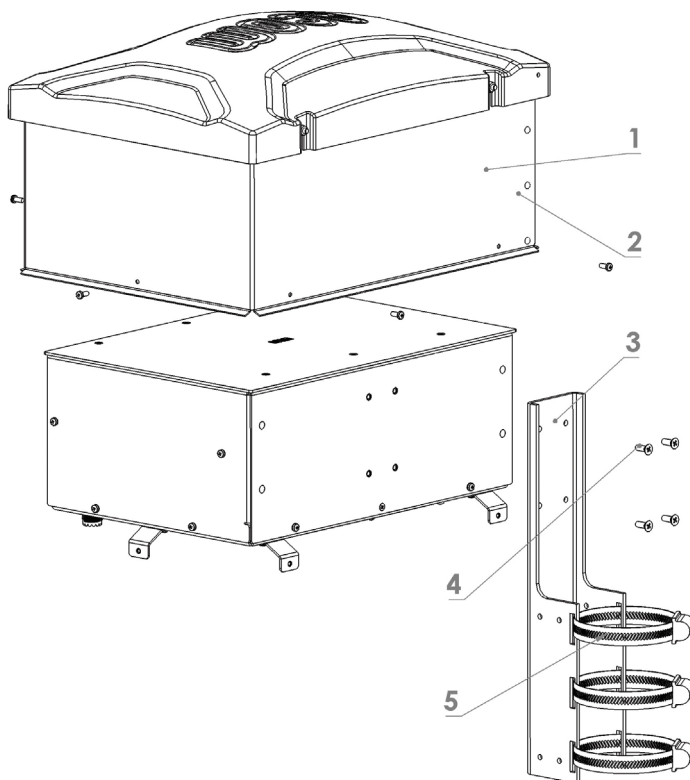

Fig. 2-6. Mast installation bracket
**2.4.2. If the *mast* mounting option is chosen – figures 2-6 & 2-7**